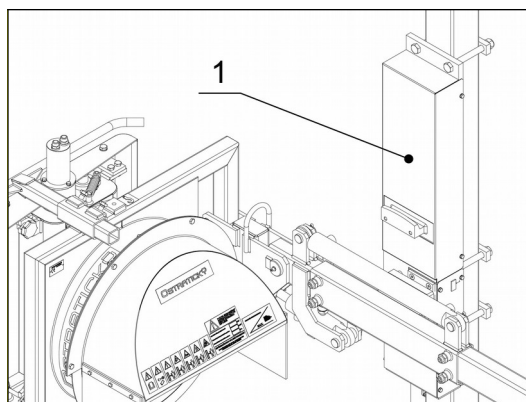

Fig. 31
2. Use the control unit to set desired angle by the hydraulic vertical tilting (Fig. 31, No. 1).